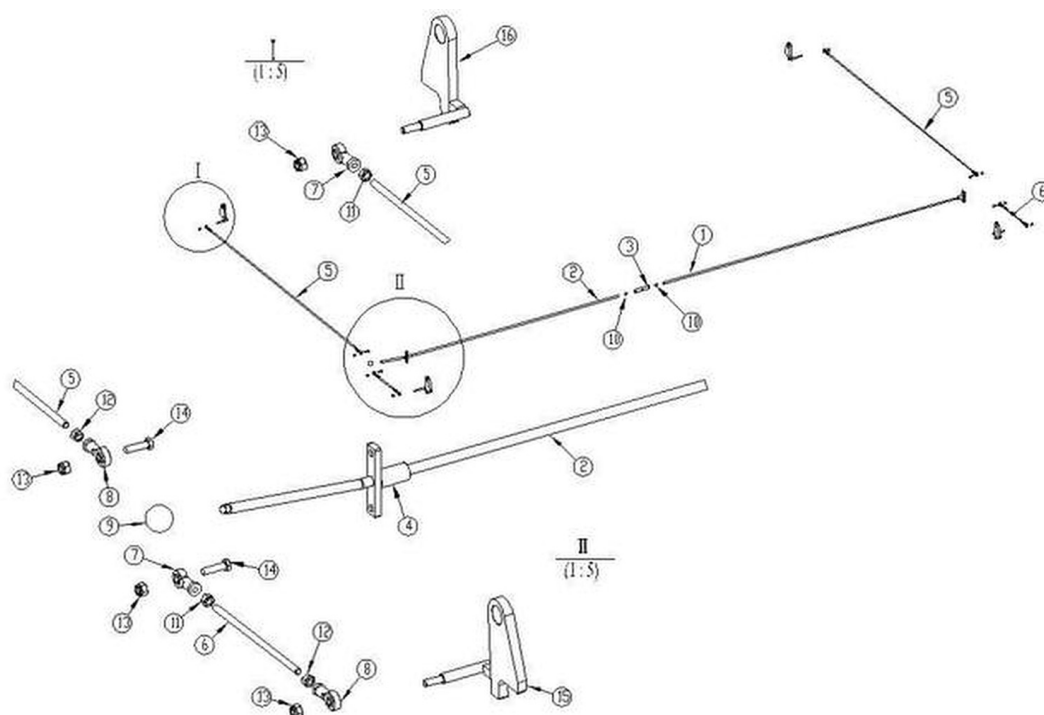

Figure 11 — Safety lock linkage assembly
1. Locate all the parts listed in the table below and match them to Figure 11.